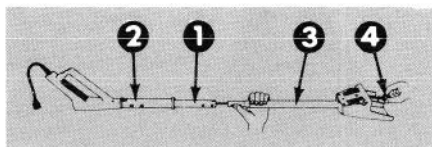

Figure 3
4. Lay handle assembly onto flat surface. Slide center handle grip off lower handle and onto upper handle (Fig. 3).
5. Align upper and lower handles. Hold handle connector with one hand and slide lower handle into mounting position in upper handle with other hand (Fig. 3). Align holes. Slide plastic center handle grip into position and align with holes in handles.